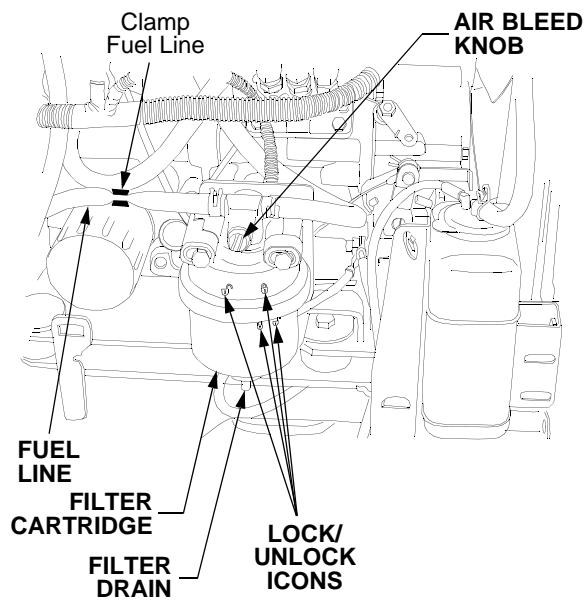

Figure 60
- Slowly turn the air bleed knob counterclockwise until fuel begins to seep out around the bleed knob. Turn the air bleed knob clockwise to close. Refer to Figure 60.
- Clamp the fuel line just to the rear of the fuel filter. See Figure 60.
- Turn the filter approximately 1/4 turn counter-clockwise (as viewed from bottom) to align the unlock icons. Refer to Figure 60.